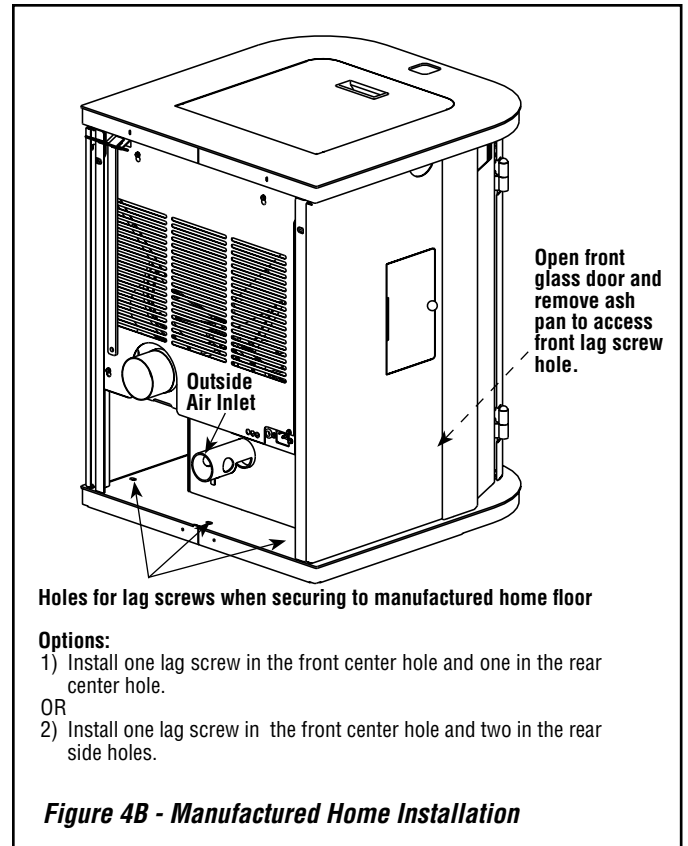

Figure 4B - Manufactured Home Installation
- An outside air inlet must be provided for combustion and be unrestricted while unit is in use. Use a galvanized or stainless steel pipe for the duct (the outside air inlet on the stove is 1-5/8" diameter). The air intake on the exterior of the home should always be located substantially below the flue termination. See **Figures 4B and 15**.